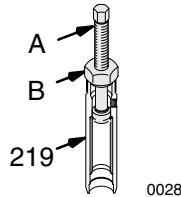

Fig. 26
- Remove the sleeve when servicing the pump. Use special tool, Part No. 224-787 only. Screw the nut (B) into the cylinder (219). Screw down the rod (A) to push the sleeve out. See Fig. 26.